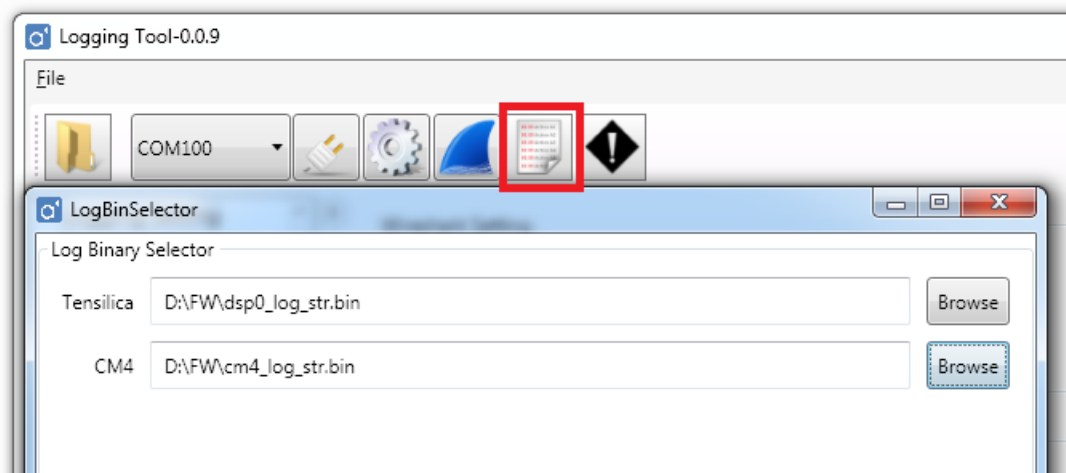

Figure 17. Selecting log binary
- 2) Click the **log binary file** button as shown in Figure 17.